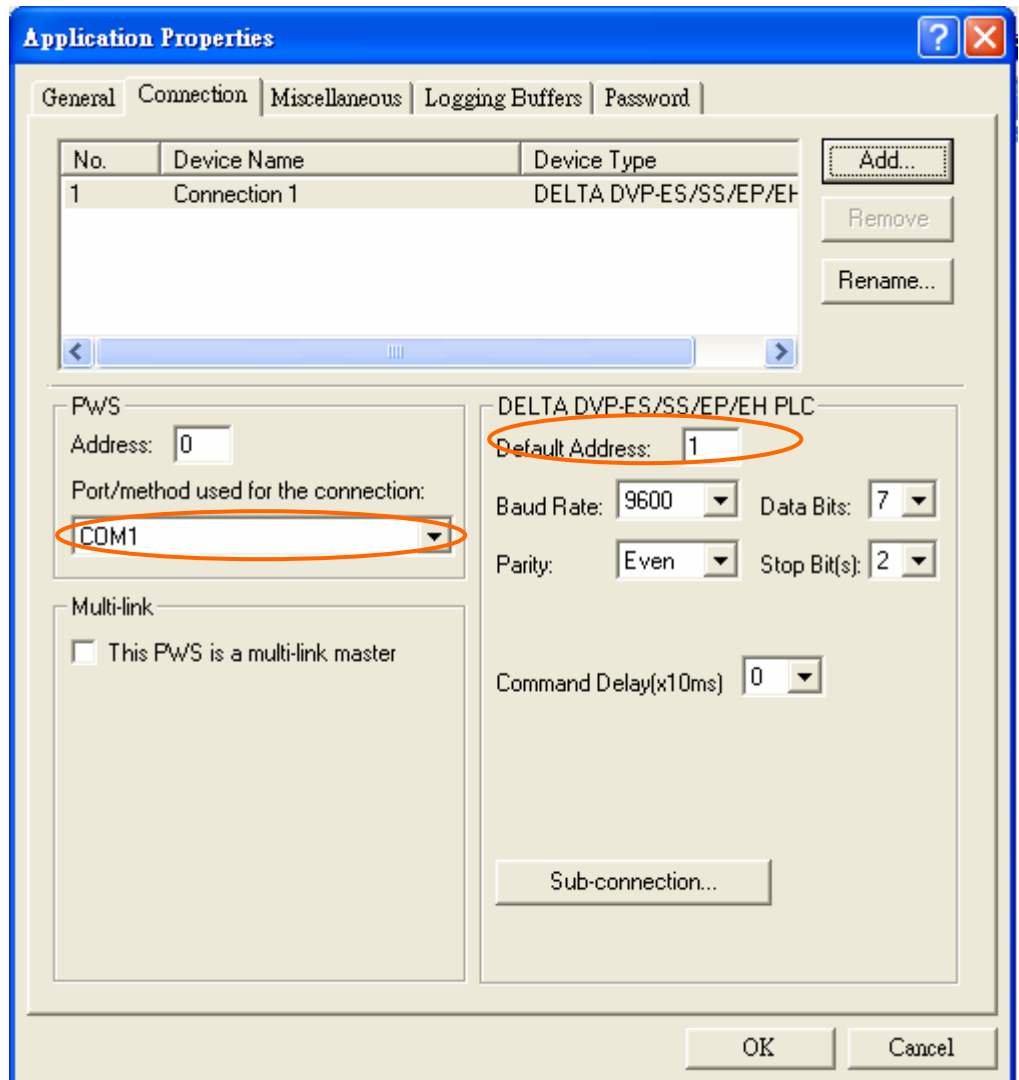

Figure 207. Set up the Parameters for the Slave HMIs
- (i) Select [Application]/[Workstation Setup]. On the [Connection] tab, select [COM1] port used for the connection and enter the addresses and sizes in the [Common Register Block], [Common On/Off Block], [CRB Size] and [COB Size] box. See Figure 207.
If the slave HMI dip switch#5 set OFF, the HMI will read the communication parameters from ADP. A user must enter the unique address (2-10) in [Default Address]. See Figure 207. Remember to compile and download applications each time after making any changes to the address.